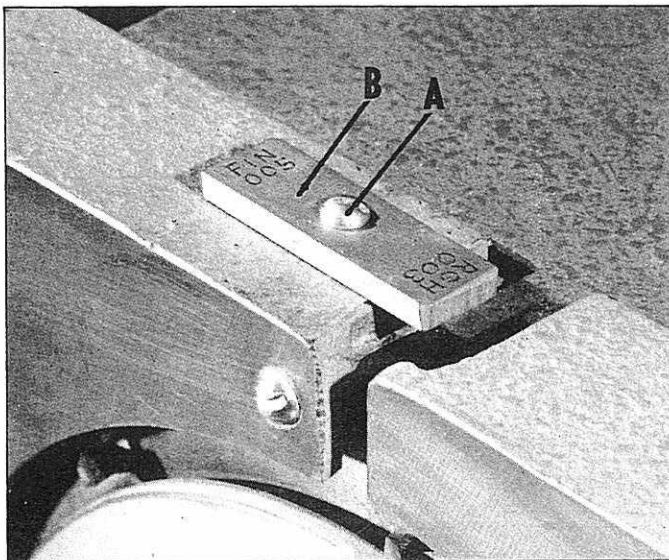

Fig. 16.
3. Remove round head screw (A) and cutter setting gage (B) Fig. 16, from top of outfeed fence.